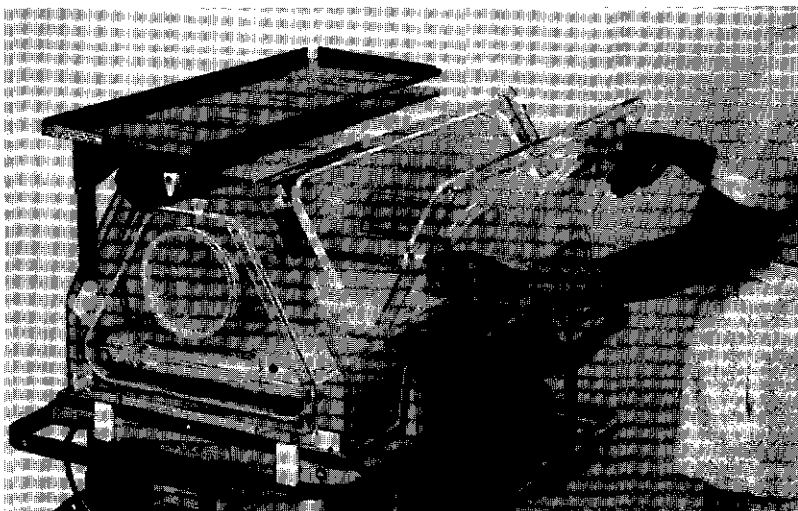

FIGURE 4.2 ACCESS PANEL OPERATION
- A. CHECK FRONT AND HEAD END ACCESS PANELS.** Rotate access panel latches (Figure 4.2) and open the access panel. Pivot the access panel to the full open position (hanging straight down).
- D. **PLACE INFANT IN INCUBATOR** through opened access panel (Figure 4.2). Close Access Panel. The Access Panel Latches must be positively secured to avoid accidental opening.